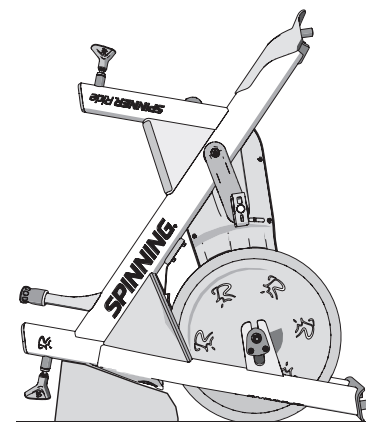

Figure 1
1. Stand the bike frame on its front end (toward flywheel) and place a piece of foam under the bike frame (Figure 1) to protect the handlebar adjustment pop-pin from damage.